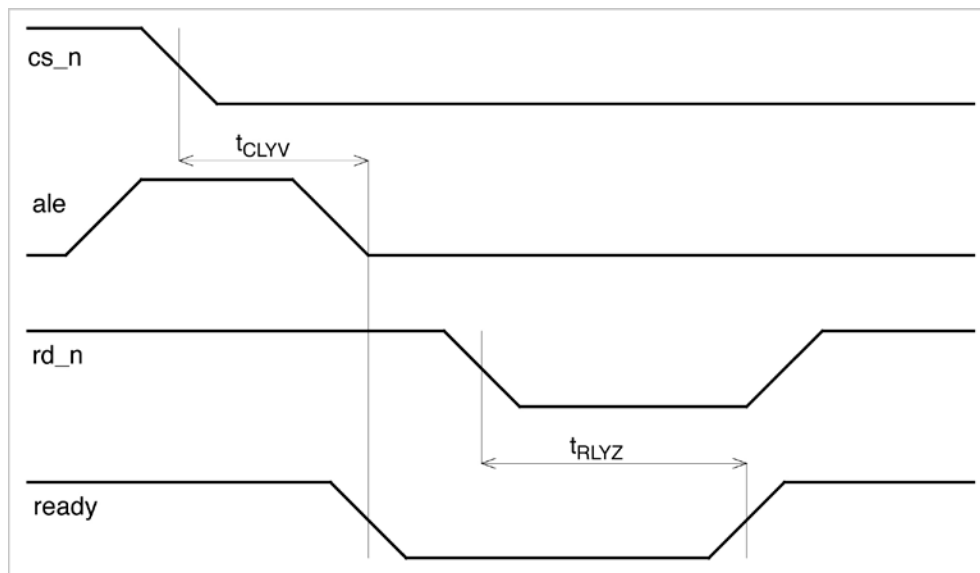

Figure 8. Mode 0 and Mode 1: Ready Timing for Read Cycle
- Mode 0 and Mode 1: Ready Timing for Read Cycle (Table 10 and 11/Figure 8)